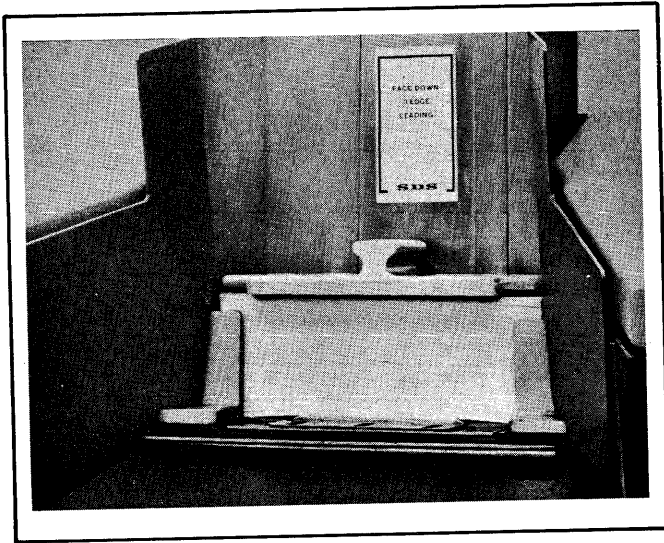
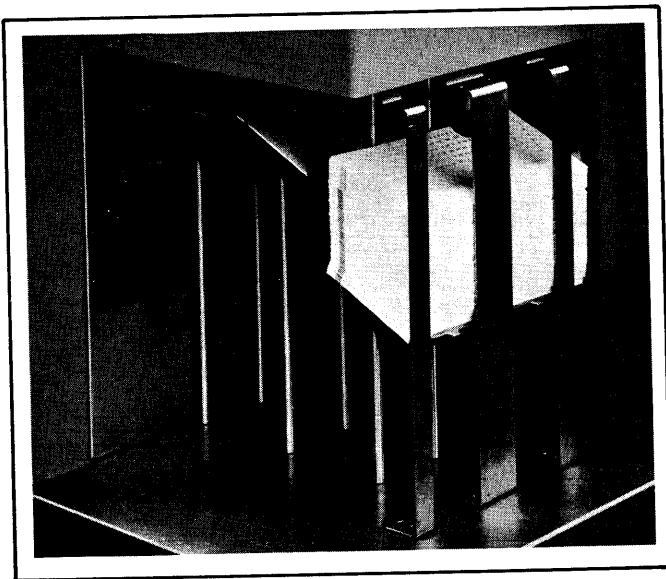

Figure 11. Model 7120 Input Hopper
Figure 12. Model 7120 Multiple Output Stackers
2. Remove the card weight (and cards, if present) from the input hopper (see Figure 11). Press the RESET switch to feed the card (if present) from the card read platform into alternate stacker 2 (see Figure 12).